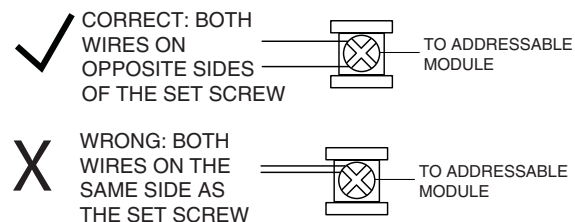

Figure 2: Close-up of terminals showing correct wiring
**Note:** The wires must be on opposite sides of the set screw. Refer to Figure 2 for the location of the wires.